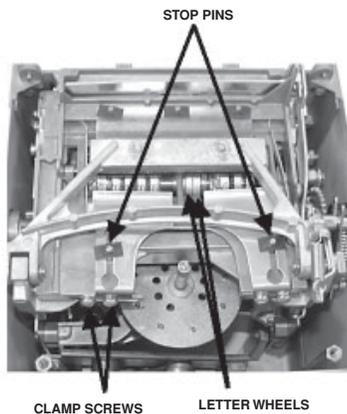

FIGURE 4
1. With the top plate removed, the “letter” wheels are visible (see Figure 4).